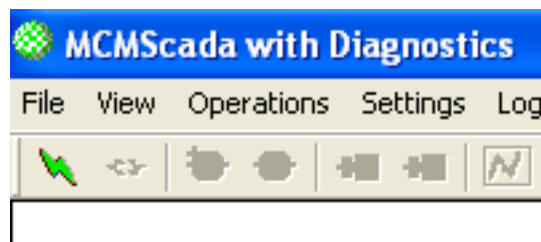

Figure 40: MCMScada window
3. On the MCMScada window, click the **Connect** button (green button on the toolbar) in Figure 40.